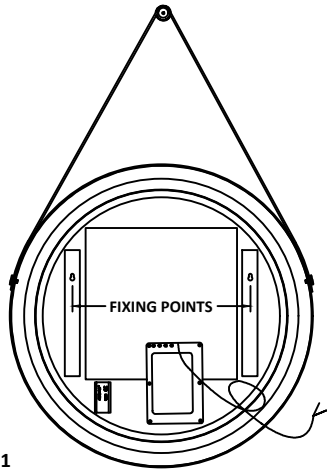

Fig 1
- 1) Carefully mark the position of the mirror using a soft pencil ensuring it is level. Remove the mirror and mark the mounting points, see Fig 1. Please ensure that all marked mounting points accurately match up with the fixing points on the mirror.